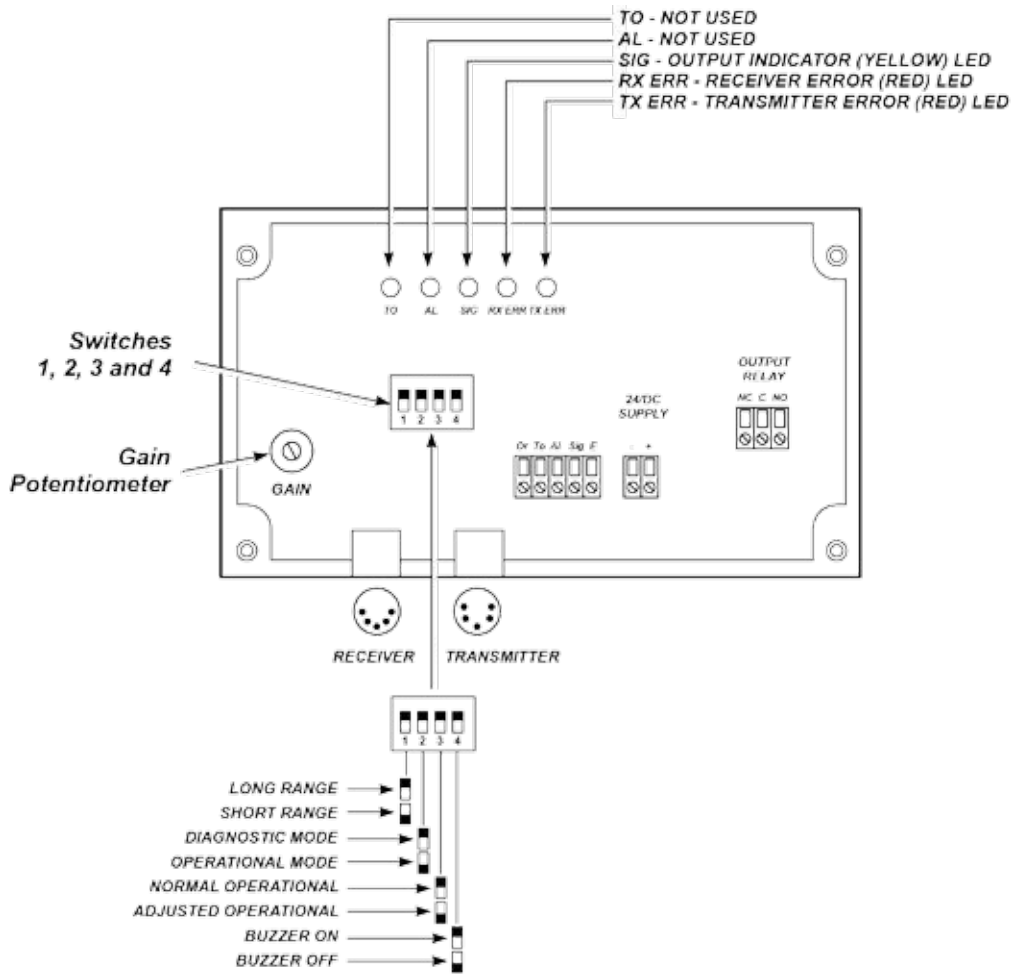

Figure 54 – Safety Light Curtain Control Box with Lid Removed
6. Ensure that Switch 1 (sw1) (see Figure 54) is set to the correct range.
- 6. Ensure that Switch 2 (sw2) (see Figure 54) is set to Off (Operation Mode).
- 9. Slowly adjust the gain potentiometer (see Figure 54 above) clockwise (to maximum) until the transmitter and receiver can 'see' each other ie. the receiver can detect the beam sent from the transmitter.
Switch sw2 On (Diagnostic mode). After approximately 15 seconds the RX ERR and TX ERR LEDs (see Figure 54 above) will indicate if there is a faulty beam ie: